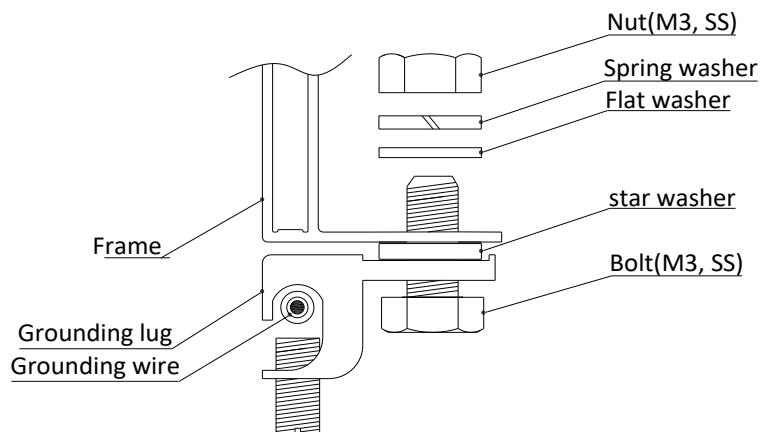

figure8
- Striping the grounding wire to proper length, do not hurt the metal core during, insert it into the lug, fastening the screw then. Follow figure8 use bolt to connect lug to the frame. Recommended M3 screw assembly is 2.3 N•m.